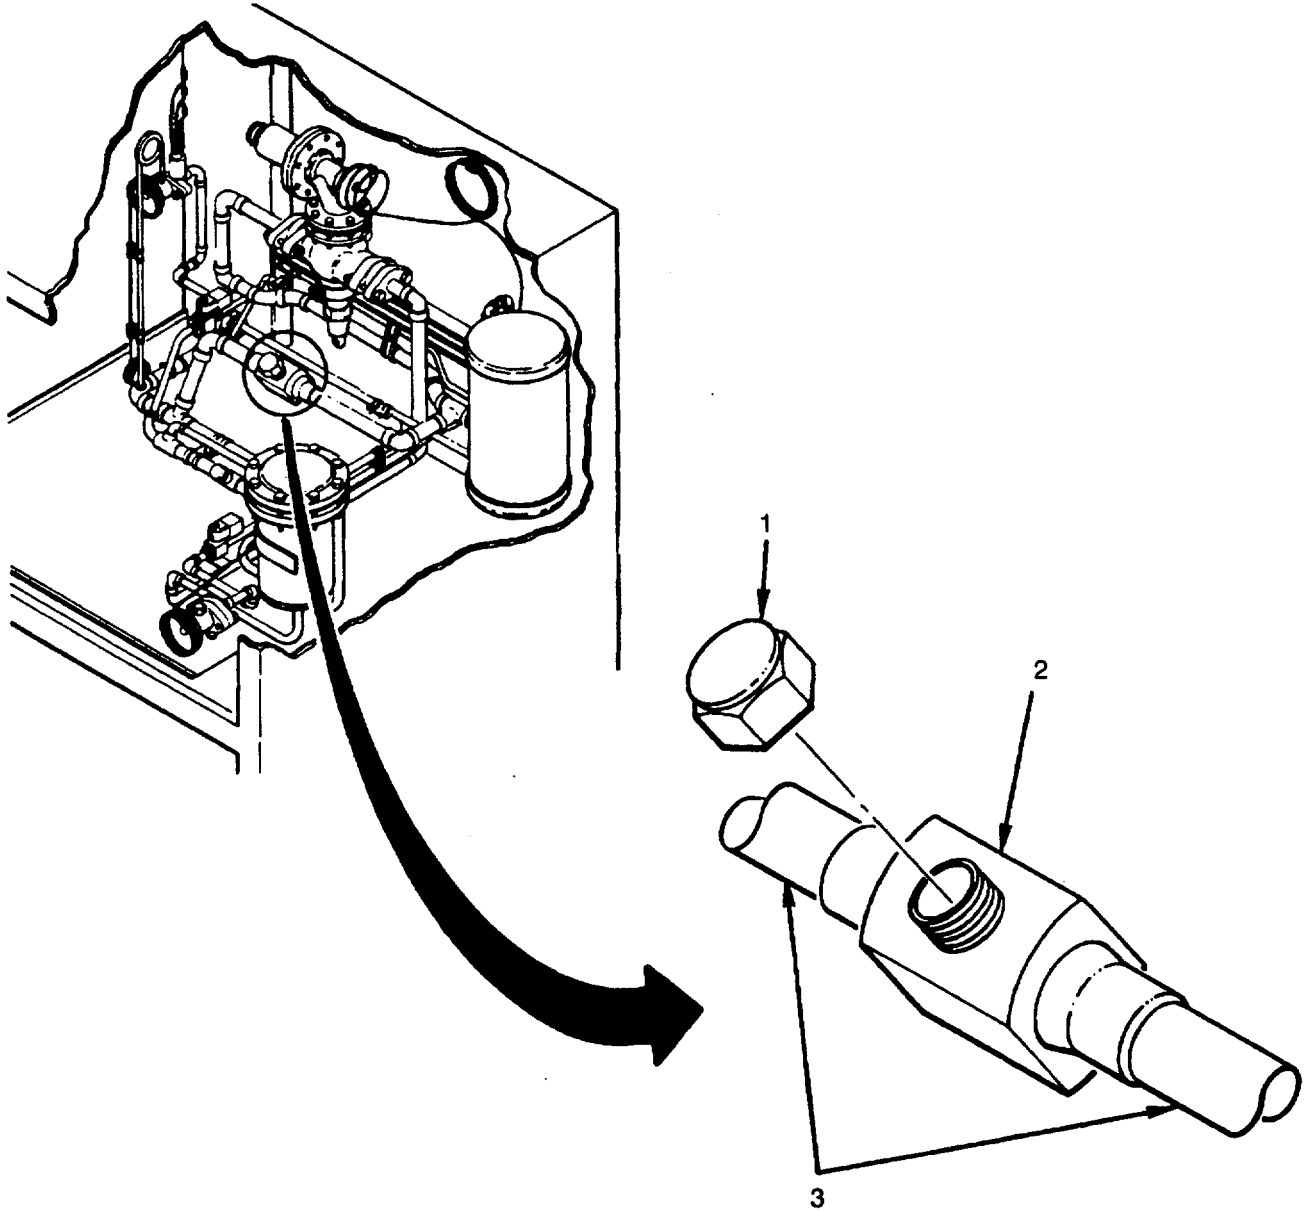

Figure 5-28. Manual Valve (Bypass)
1. Inspect for evidence of leaks, damaged lines, and loose or missing mounting hardware. Replace if inspection fails (see Figure 5-28).